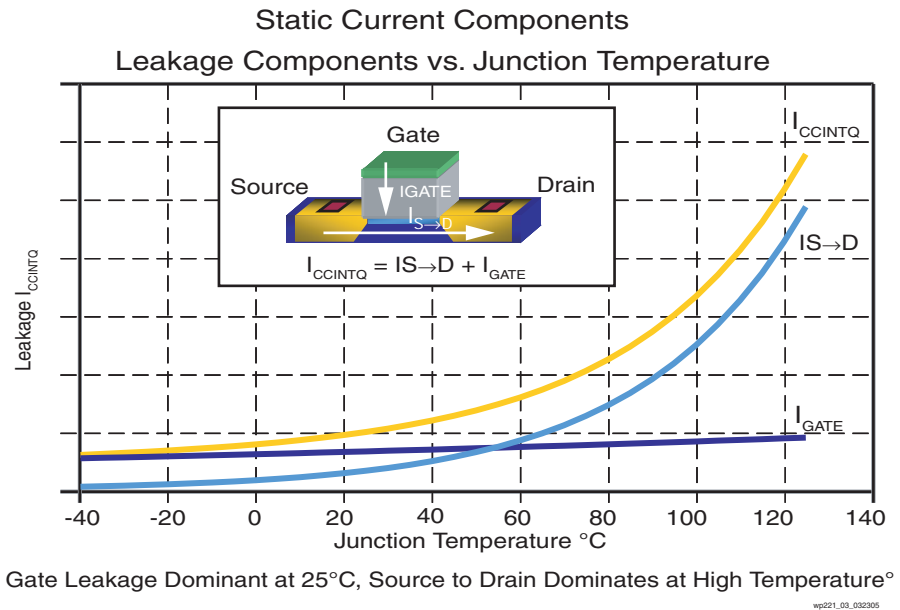

Figure 3: Leakage Current Components versus Temperature for the 90 nm Virtex-4 FPGA
- Source-to-Drain Leakage:** This current flows from source to drain of the transistor, even when the transistor gate is off. When the transistor gets small, it is harder to prevent this current from flowing, and therefore, 90 nm transistors tend to exhibit source-to-drainage leakage with much greater magnitude than larger transistors, all parameters being equal. The other problem is the thickness of the gate oxide. A thinner oxide allows the transistor to be switched on and off faster, but it also increases leakage. The amount of leakage is also influenced by the threshold voltage of the transistor. The threshold voltage, or  $V_T$  of the transistor, is the voltage between the gate and the source at which the channel conducts current to a certain extent. Small high-speed transistors need a lower threshold voltage (influenced by oxide thickness and doping) to maintain the speed with which the transistor can be turned on and off via gate control, but this also tends to increase the leakage because the channel of the transistor can not be turned off completely. The goal is to make fast transistors, but unfortunately, physics is against this. Another important note is that source-to-drain leakage increases exponentially with increasing temperature; in going from a junction temperature ( $T_J$ ) of 25°C to 85°C, it goes up by a factor of 5x (see IS →D, Figure 3, page 5).
- Gate Leakage: This current flows from gate to substrate. This component of leakage is now more substantial as transistor gate oxide thickness has decreased at the 90 nm technology node. At room temperature, the leakage from gate to substrate is larger than the source-to-drain leakage in the 90 nm fast thin oxide transistors; however, unlike source-to-drain leakage, this gate leakage only increases marginally with increased temperature (see  $I_{GATE}$ , Figure 3).